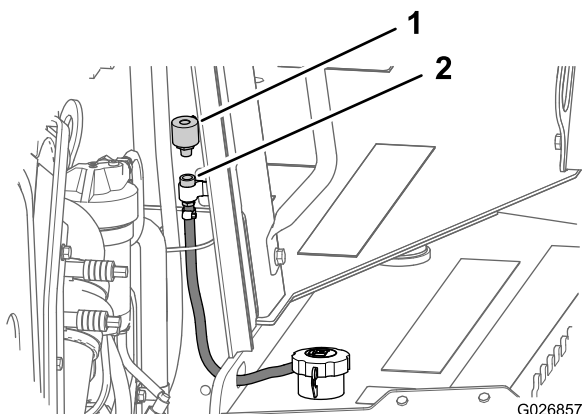

Figure 78
2. At the forward side of the engine compartment panel, remove the breather from the pipe coupling by rotating the breather counterclockwise (Figure 78).
3. Install a new breather into the pipe coupling hand tight (Figure 78).